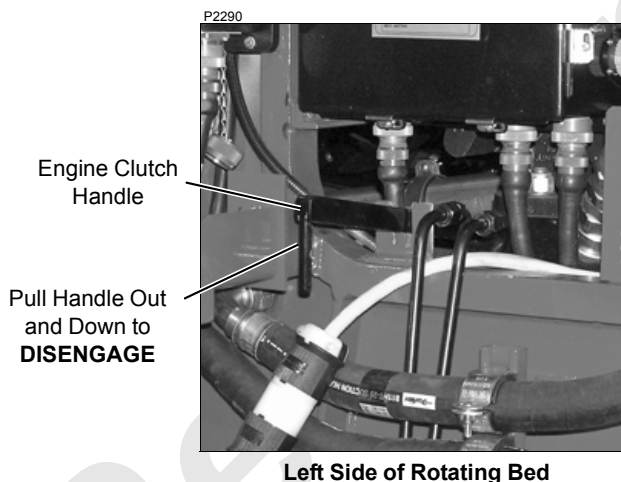

FIGURE 2-17
4. At engine, disengage engine clutch (Figure 2-17).